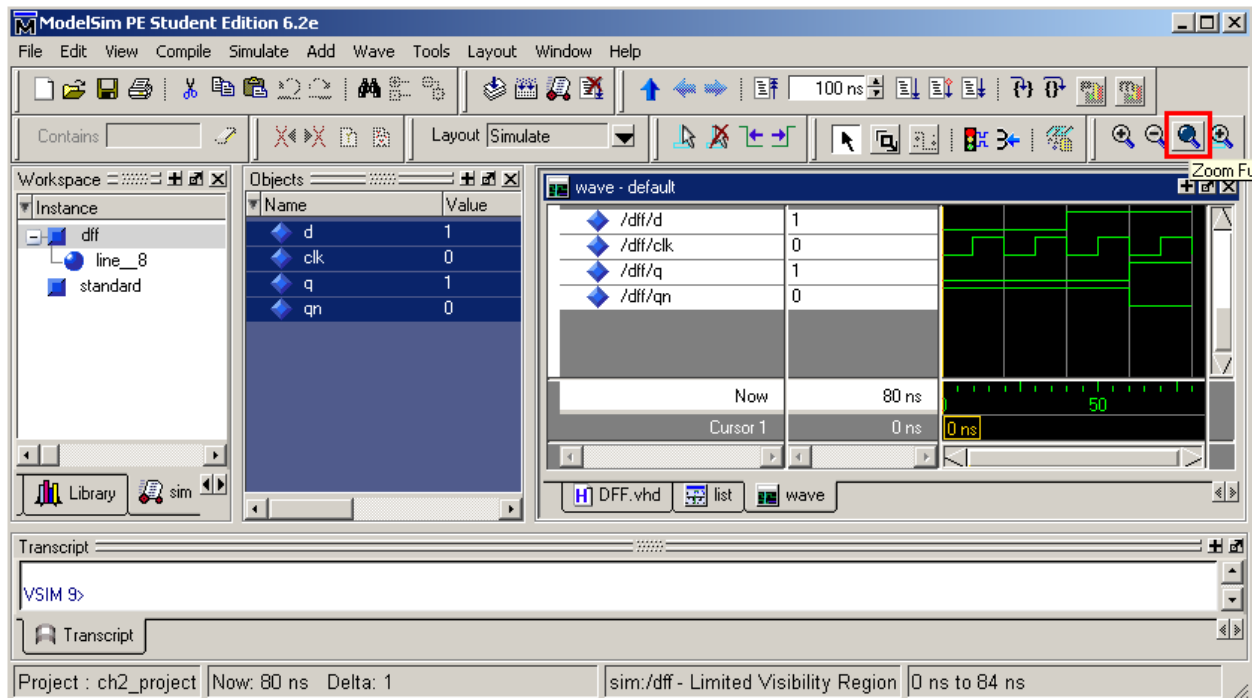

Figure 12: Simulation Results
- Select the wave window, and click on the **“zoom full”** button (See Figure 12). Your simulation output should look similar to Figure 12.